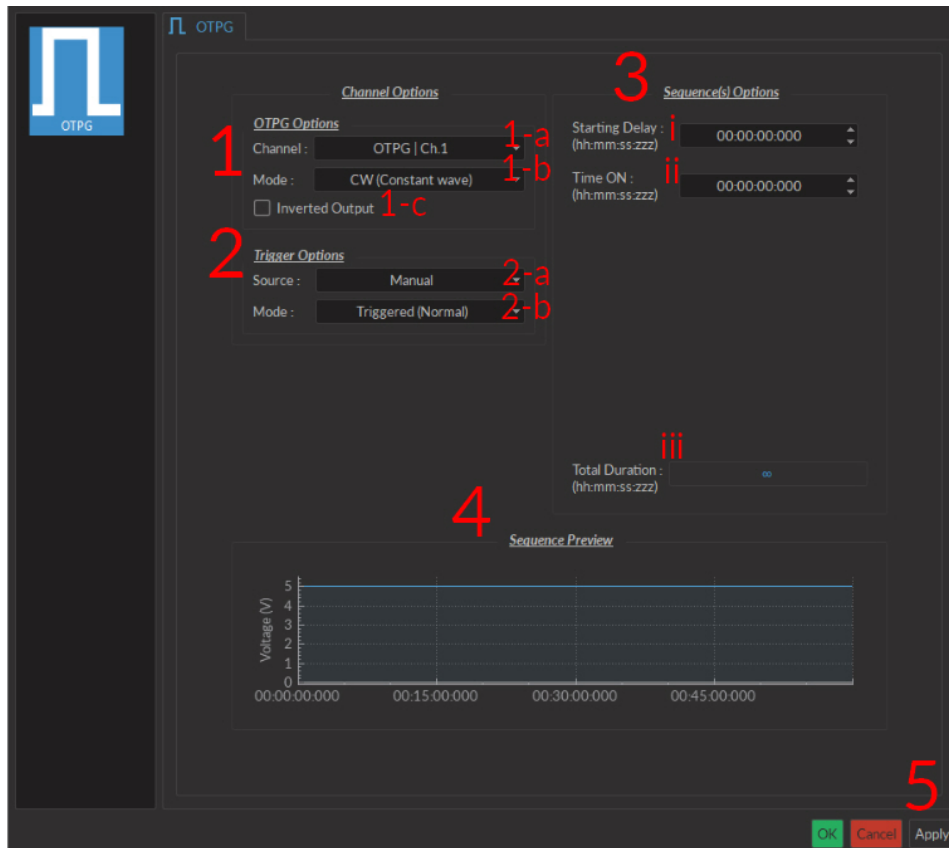

Figure 3.64: Channels Configuration, Continuous Wave Interface
1. The **Channel Options** (Fig. 3.64) include the **Channel** drop-down list and the channel **Mode** list.
- i. The **Starting Delay** (Fig. 3.64) defines the time between the activation of the pulse sequence and the beginning of the signal.
- ii. The **Time ON** (Fig. 3.64) defines the length of time the continuous signal is active. Should the time chosen be 0, the signal will continue until the pulse sequence is stopped manually.
- iii. The **Total Duration** (Fig. 3.64) shows the total expected duration of the pulse sequence. Should the duration be infinite, the box will display ∞ . If there is an error in parameter selection, this box will display **N/A**.
2. The **Trigger Options** (Fig. 3.64) define the trigger methods. These options include the trigger **Source** and **Mode**.
3. The **Sequence Options** (Fig. 3.64) define the parameters of each pulse sequence for output channels. These parameters are defined with each channel type. Should a parameter chosen be impossible to apply to a sequence (For example, a **Time ON** greater than $1/\text{Frequency}$), the color of the option boxes will turn **RED**.
4. The **Sequence Preview** (Fig. 3.64) section allows visualization of the output sequence that will play by selecting the channel in the graph.
5. The **Apply** button (Fig. 3.64) will generate the defined channel OR update an already configured channel with any changes.